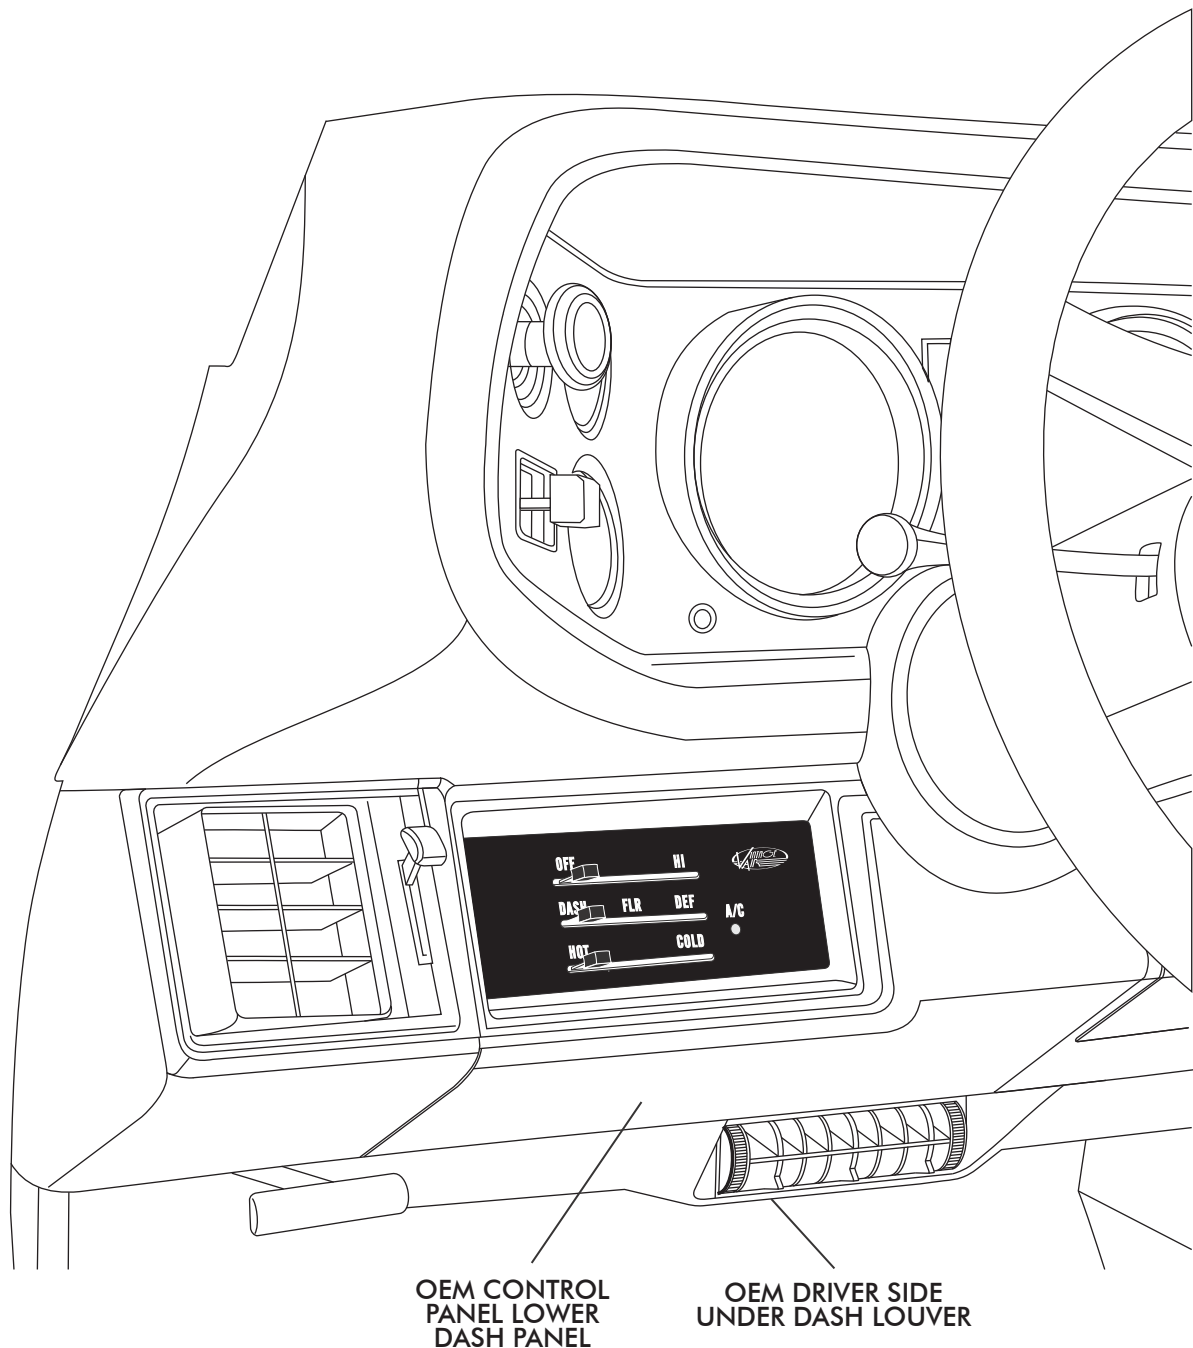

**FIGURE 3**
- PLUG THE CONTROL PANEL WIRING HARNESS INTO ECU AS SHOWN IN THE EVAPORATOR INSTALLATION INSTRUCTIONS. PLUG THE OPPOSITE END OF THE HARNESS INTO THE CONTROL PANEL PC BOARD AS SHOWN IN FIGURE 3 BELOW.